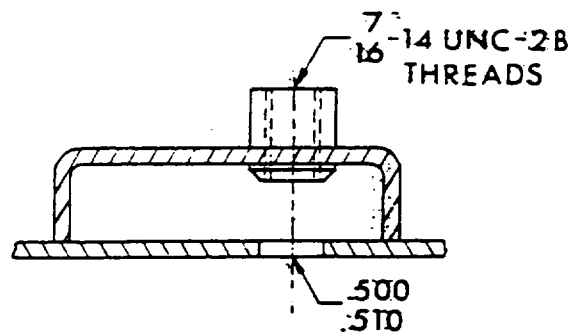

Figure 4-1. Mounting Details
c. *Mounting* The air conditioner should be bolted or lag-screwed to a flat, level surface. The base plate contains four mounting holes, equipped with 7/16-14 clinch nuts if bolting from below is required. These nuts may be driven out if bolting or lag-screwing from above is necessary. (See figure 4-1.)